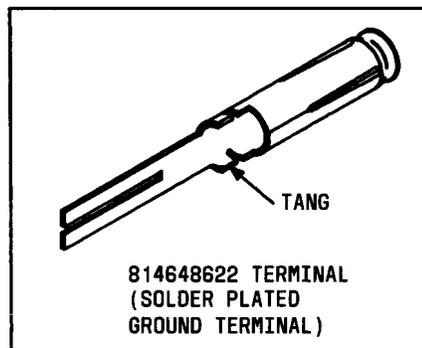

Fig. 4—Ground Terminal
4.18 814648622 (P46D862) Terminal (Fig. 4): Follow the procedures outlined in paragraph 4.12 and replace the back cover.